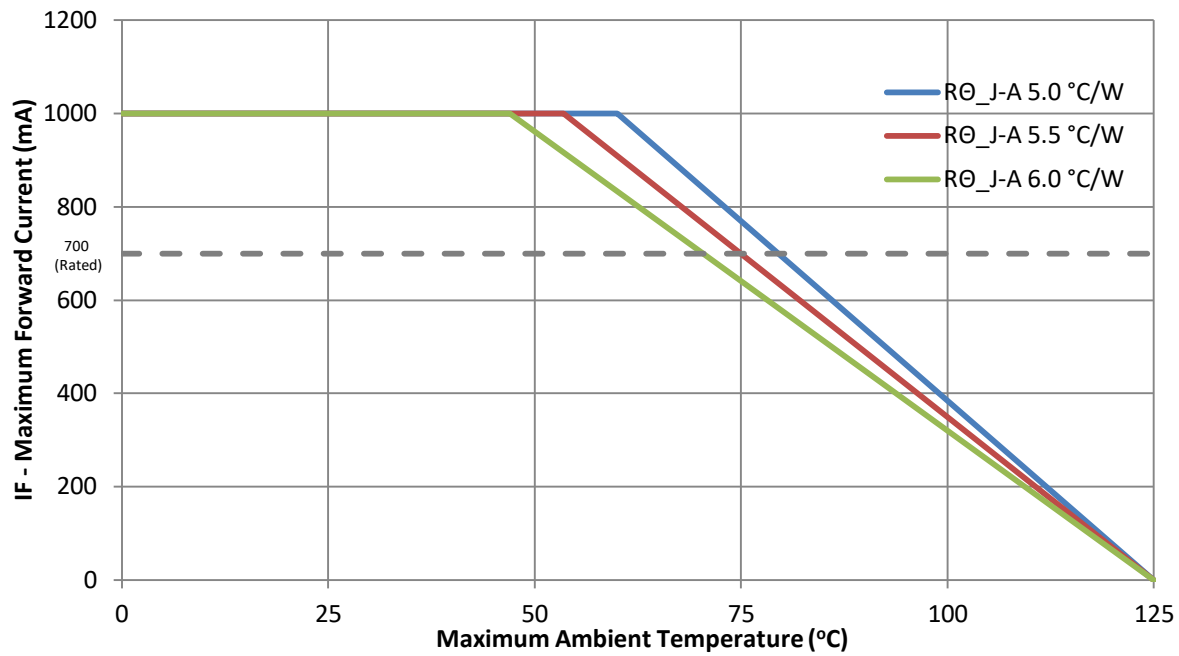

Figure 11: Maximum forward current vs. ambient temperature based on  $T_{J(MAX)} = 125^{\circ}\text{C}$
- Maximum DC forward current is determined by the overall thermal resistance and ambient temperature. Follow the curves in Figure 11 for current derating.
Notes for Figure 11: